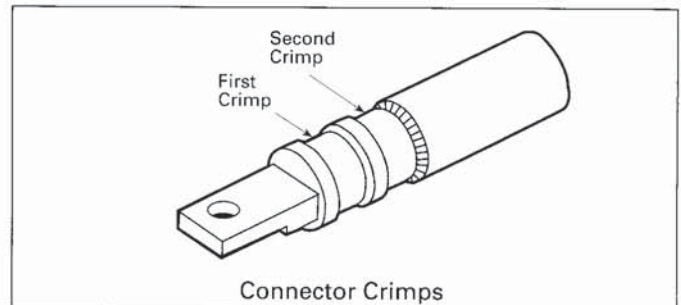

Figure 2
- Select an appropriate tool and die combination from Table 1 and make the required number of crimps within the boundaries stamped on the connector barrel. Refer to Figure 2 for sequence of multiple crimps.